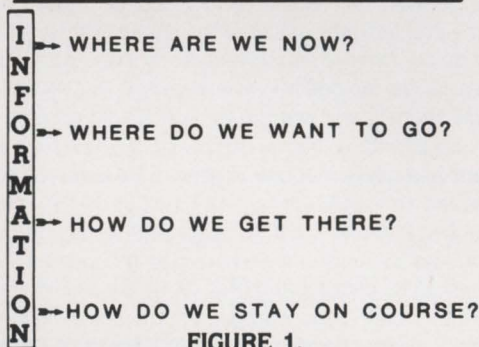

FIGURE 1.
To effectively place this philosophy into operation in the management of our business we continually ask the questions outlined in Figure 1.
The value of the computerized information system is illustrated in Figure 2. The purpose of an information system is to (1) collect and manage data, (2) process data into information and (3) to disseminate the information to people for their use in answering the questions of Figure 1 (above).
Each possible editing keystroke has a unique number for it in an internal EDT table (figure 1). EDT allows access to these keystrokes by both mnemonics (such as "GOLD CONT Z") and the internal number. There are some obscure keystrokes that are definable only by their internal number, and some can be defined, but cannot be used at all!